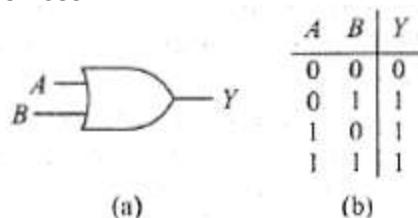

Figure 2.4: 2-Input OR Gate (a)Truth Table (b)2-Input OR Gate Symbol
- The output is HIGH when any input is HIGH (Figure 2.4).